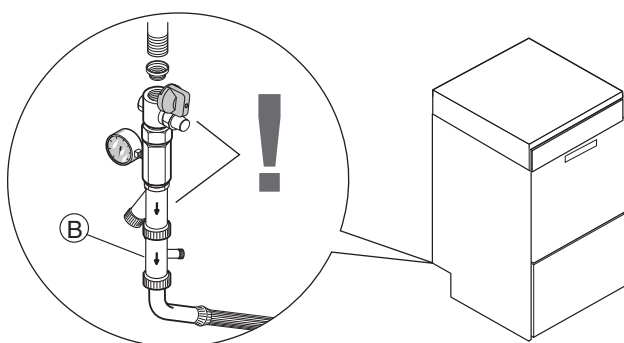

Figure 8 Supply pipe connection
Machines marked Watermark must be installed in conformity with AS/NZS 3500.1, and the non-return device supplied with the machine must also be installed (B - Figure 8). The drain must comply with 3500.2.
- Connect the equipment water pipe “WI” (see par. G7 “Installation diagram”) to the water supply, interposing a tap, the filter (if provided) and a pressure gauge (Figure 8).
If the equipment is replaced, always use the new inlet hose provided. Be sure that the non-return valve “B” and the filter supplied are fitted correctly as shown in Figure 8.